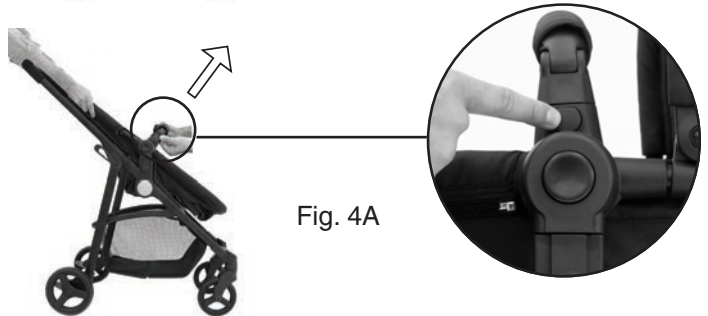

Fig. 4A
- **To remove child bar:** Push in safety release buttons on both sides and pull the child bar away from stroller frame (Fig. 4A).